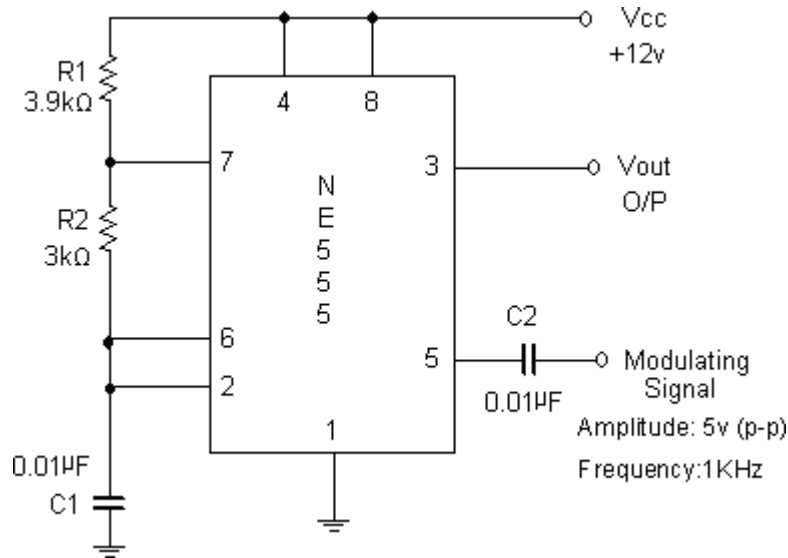

Fig: 8.1 Pulse Position Modulation Circuit
1. Connect the circuit as per circuit diagram as shown in the fig 8.1.